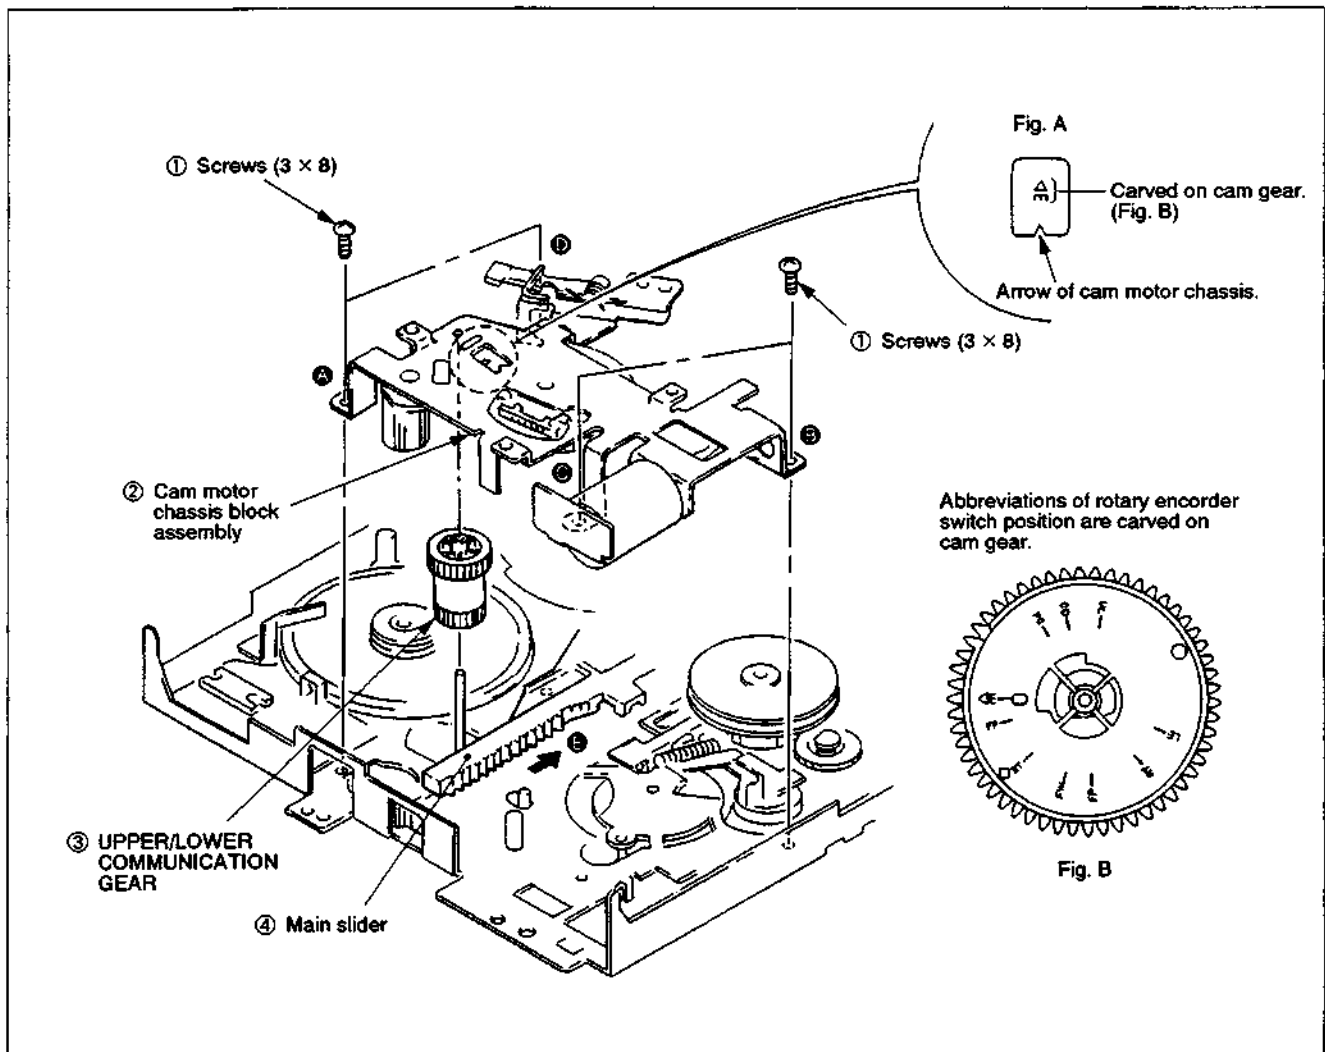

Fig. 3-18
3-16. CAM MOTOR CHASSIS BLOCK ASSEMBLY, UPPER/LOWER COMMUNICATION GEAR (Fig. 3-18)
- 1) Set the mechanism to the loading-end condition referring to 1-1. (Cam gear indicates "LE". (Refer to Fig. A and B of Fig. 3-18.))
- 2) Remove tension spring ① in the order Ⓐ to Ⓑ.
- 3) Remove stopper washer (2) ② to pull out TG1 assembly ③.